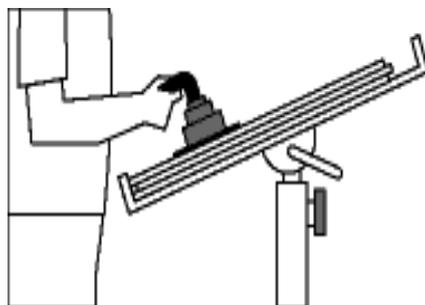

Figure 4d
- Use jigs or vices to hold the work object steady and secure at the proper height and position for optimum comfort (Figure 4d).